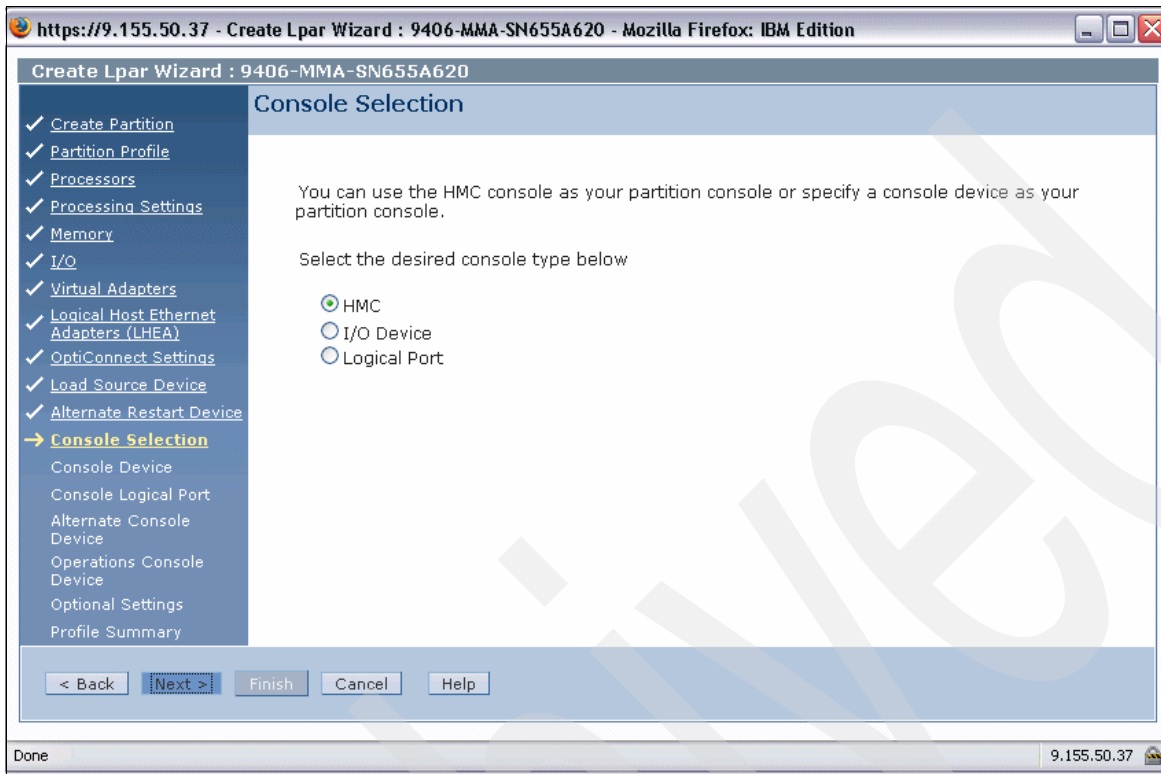

Figure 6-39 Create LPAR Console Selection dialog
19. We accept the default selection of **HMC** to be used as the console device and click **Next** to proceed, as shown in Figure 6-39.